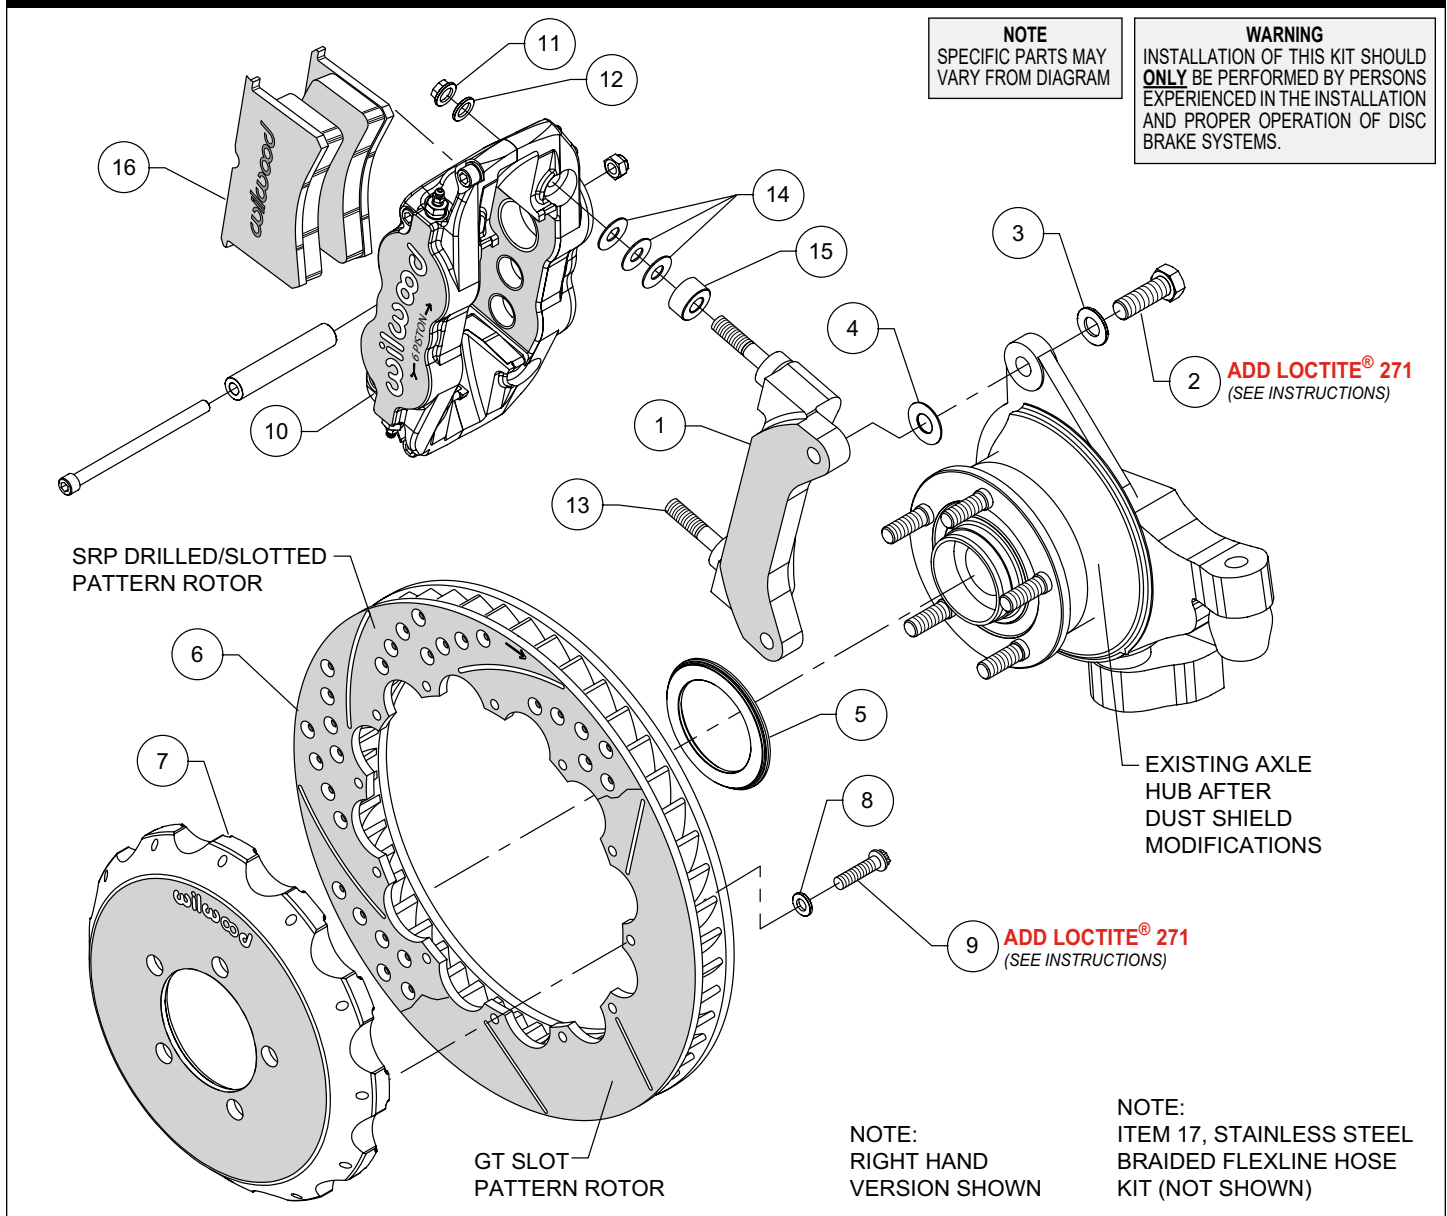
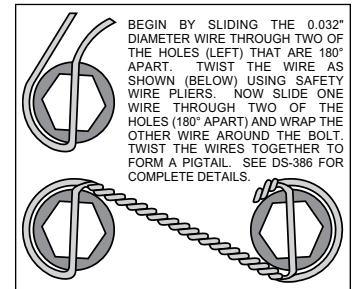

Figure 1. Typical Installation Configuration
Figure 4. Safety Wire Diagram
Assembly Instructions (numbers in parenthesis refer to the parts list and Figure 1 on the preceding pages):
- The caliper mount bracket (1) should initially be installed with clean, dry threads on the mounting bolts. Orient the bracket as shown in Figure 1, and install using washers (3) and bolts (2). Initially place one shim (4) on each bolt between the bracket and upright, Figure 1. Temporarily tighten the mounting bolts. **NOTE:** The bracket must fit squarely against the mount bosses on the upright. Inspect for interference from casting irregularities, machining ridges, burrs, etc. Later, after the caliper alignment has been checked, the mount bolts will be secured using red *Loctite*® 271.
- Orient the rotor (6) and the hat (7) as shown in Figure 1 and Photo 1. Attach rotor to hat using bolts (9) and washers (8). Apply red *Loctite*® 271 to the bolt threads and torque to 155 in-lb using a criss-cross pattern. For an added measure of security, the bolts may be safety wired using standard 0.032 inch diameter stainless steel safety wire as shown in Figure 4. Please refer to Wilwood's data sheet DS-386 (available at www.wilwood.com/Pdf/DataSheets/ds386.pdf) for complete safety wire installation instructions.
- Slide the rotor registration adapter (5) onto the axle register on the axle hub with the smaller O.D. facing outward, Photo 2. Slide the hat/rotor assembly onto the axle hub. **NOTE:** The hat must fit flush against the axle hub flange or excessive rotor run out may result. Install three lug nuts (finger tight) to keep the hat/rotor assembly in place while continuing with the installation.
- NOTE:** This kit contains distinct right and left hand calipers that must be mounted in a specific direction, as described below. Initially place three .035" thick shims (14) and spacer (15) on each stud (13) as shown in Figure 1 and Photo 3. Mount the caliper (10) onto the bracket (1) using lock nuts (11) and washers (12), Figure 1. Ensure that the caliper is mounted so that the largest pistons are at the rotor exit end of the caliper, in relation to the direction of rotor rotation. Temporarily tighten the lock nuts and view the rotor through the top opening of the caliper. The rotor should be centered in the caliper, Photo 4. If not, adjust by adding or subtracting shims (4) between the bracket and the upright. Always use the same amount of shims on each of the two mounting bolts. Once the caliper alignment is correct, remove the bracket mounting bolts (2) one at a time, apply red *Loctite*® 271 to the threads, and torque to 60 ft-lb.